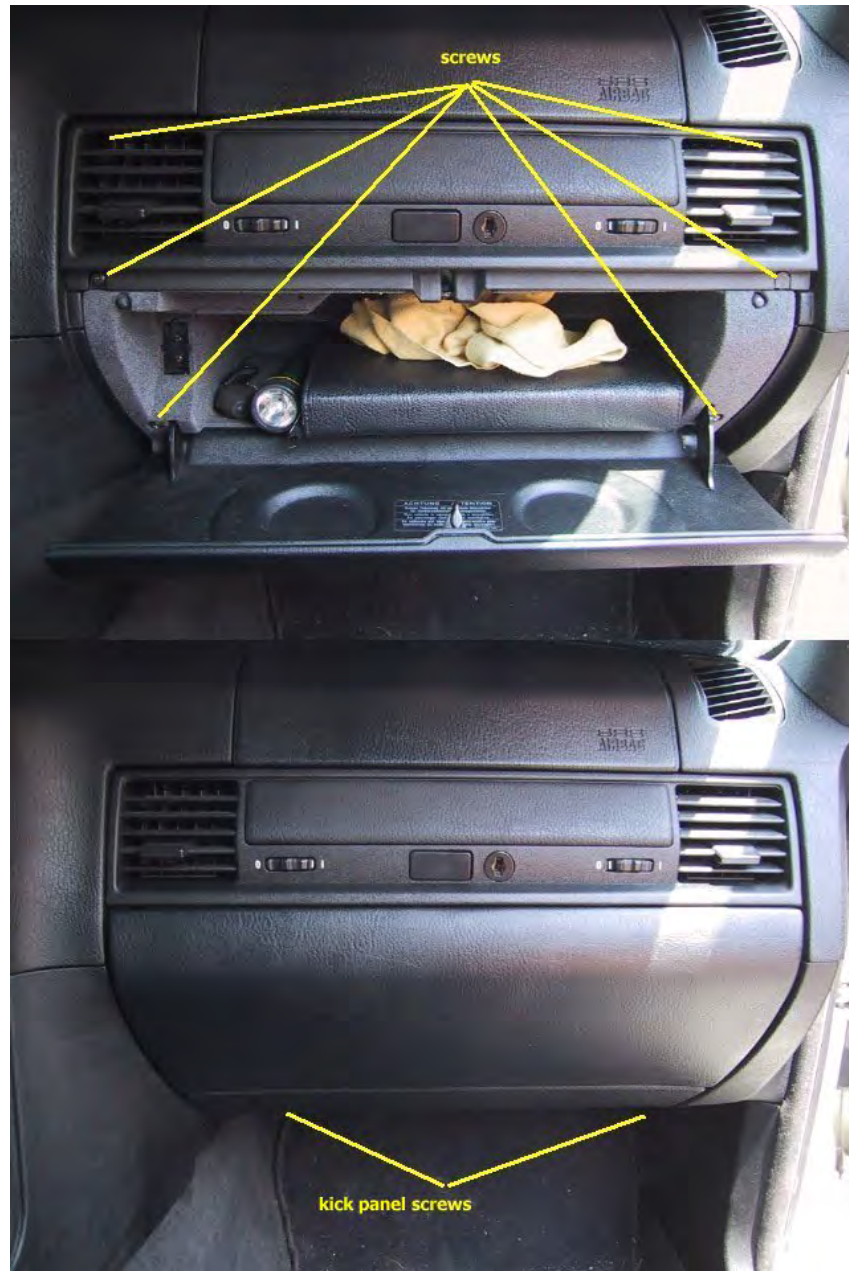

Figure 11 – Glove Box and Lower Kick Panel screw locations (Picture courtesy D. Ortiz)
5.10 Remove Glove Box (Figure 11)
- 5.10.1 First remove the lower dash panel (Figure 11 – bottom, aka kick panel) screws. Pull out lower dash panel and remove lighting connector before pulling out panel completely.